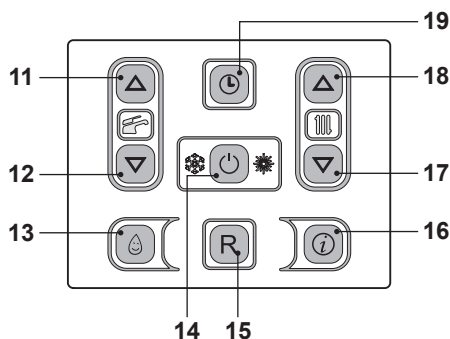

Fig. 7.8
- Press the 14 key for 2 seconds until both  and  symbols appear on the display Fig. 7.8.
- Switch off the boiler by pressing the 14 (Fig. 7.8) key for 2 seconds until the — — — — symbol appears on the LCD display (Fig. 7.7).
Press the reset key on the boiler control panel 15 (Fig. 7.8) to reset its functioning.